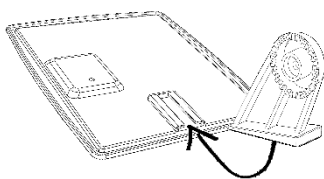
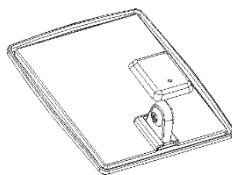

Fig. 5
Fig. 6
- a. Insert Part C into the groove at the bottom of Part F with the tapered end of the wedge going into the panel **(Fig.5 & Fig. 6)**. **NOTE:** Push the part into the groove firmly so it does not easily slide out.